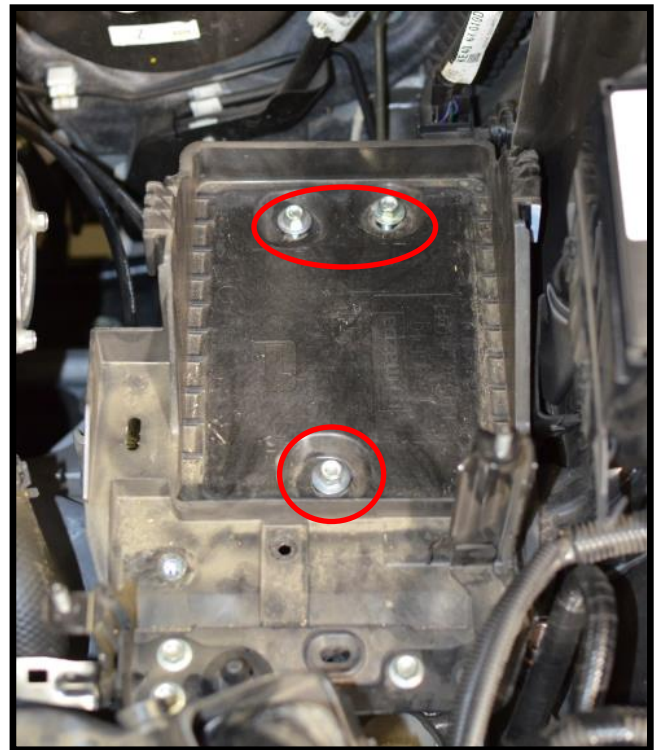

Figure 2e
l) Remove the three 12mm flange bolts then remove the battery tray from the vehicle. Shown with the red circles in Figure 2e.